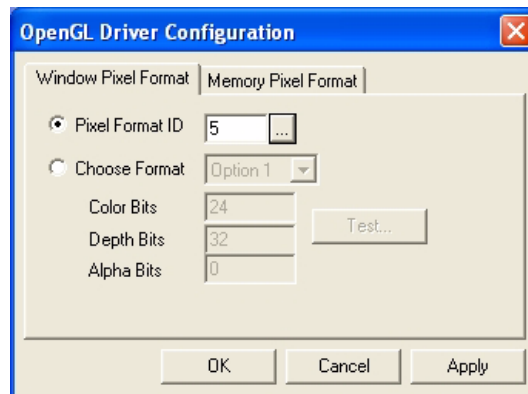

Figure 5-42: *OpenGL Driver Configuration* dialog box
4. In the OpenGL Driver Configuration dialog box (figure 5-42), select Pixel Format ID and enter this number.